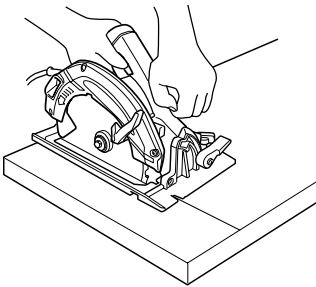
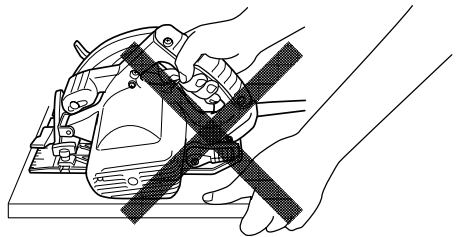

Fig. 5
Fig. 6
- 23. **Place the wider portion of the saw base on that part of the work piece which is solidly supported, not on the section that will fall off when the cut is made.** As examples, Fig. 5 illustrates the RIGHT way to cut off the end of board, and Fig. 6 the WRONG way. If the work piece is short or small, clamp it down.